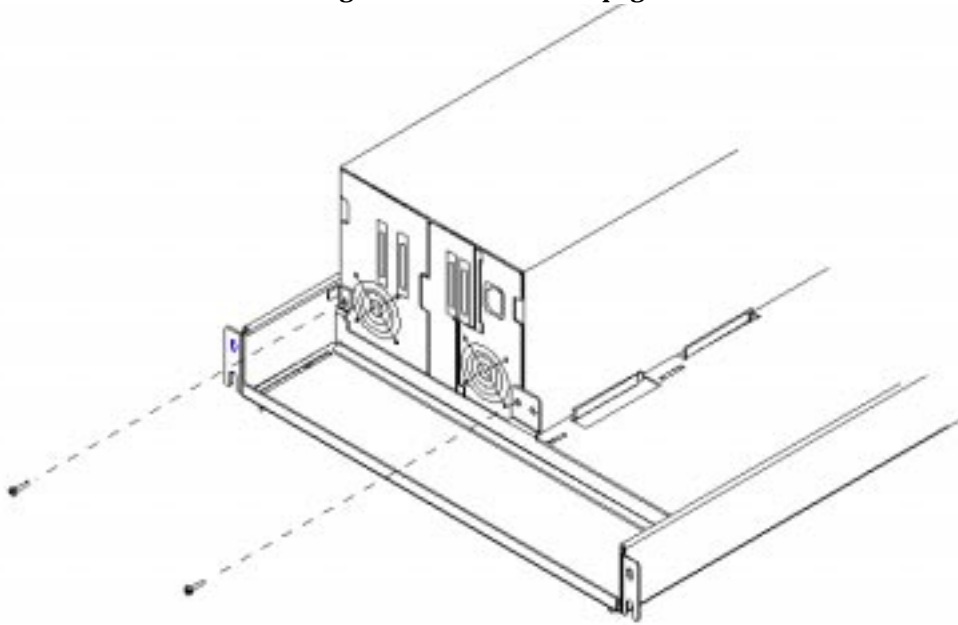

FIGURE 1-11 Unbolting the Autoloader
- a. **Remove the two screws that secure the back of the Autoloader to the shelf. See FIGURE 1-11 on page 1-18.**